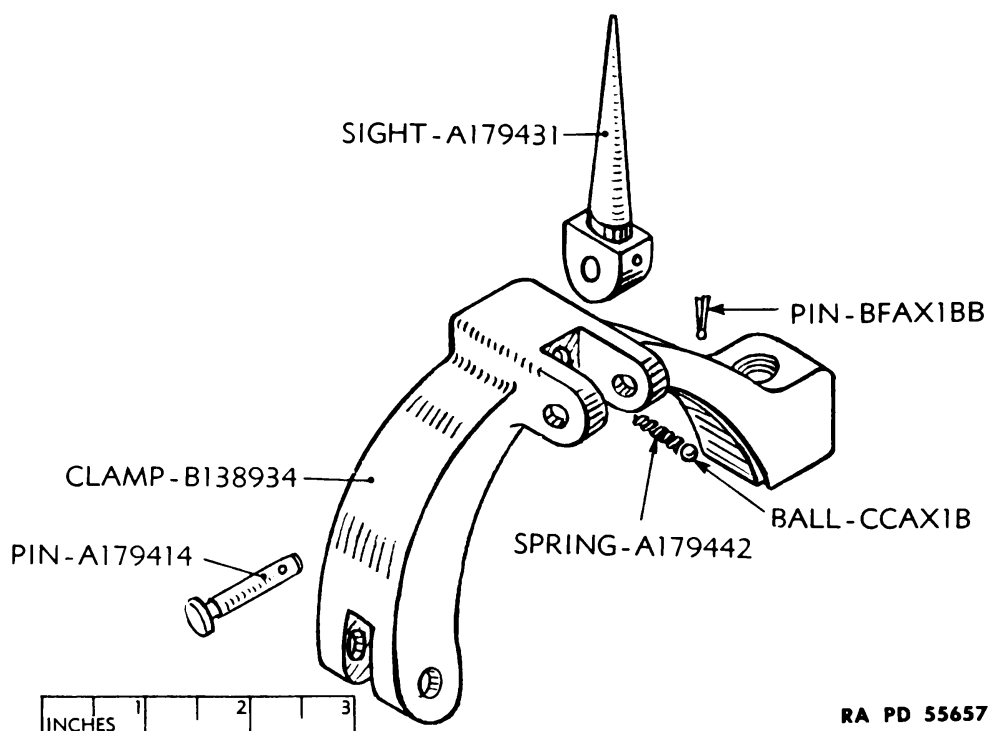

Figure 24—Front Clamp Assembly—Exploded View
(1) Remove cotter pin BFAX1BB from front sight pivot pin A179414 and remove the pin (fig. 24).
(2) In removing front sight A179431, be careful not to lose the front sight detent ball CCAX1B and spring A179442 assembled in the cradle clamp.